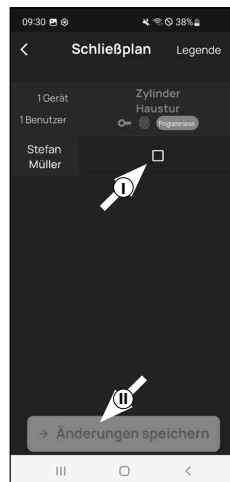

Fig. 2
- ④ A table is displayed consisting of the existing cylinders (horizontal) and the configured users (vertical) (Fig. 2). Select the checkbox where you wish to authorise the respective user to use the corresponding lock (I) (Fig. 2) and then click on the button „Save changes" (II) (Fig. 2).